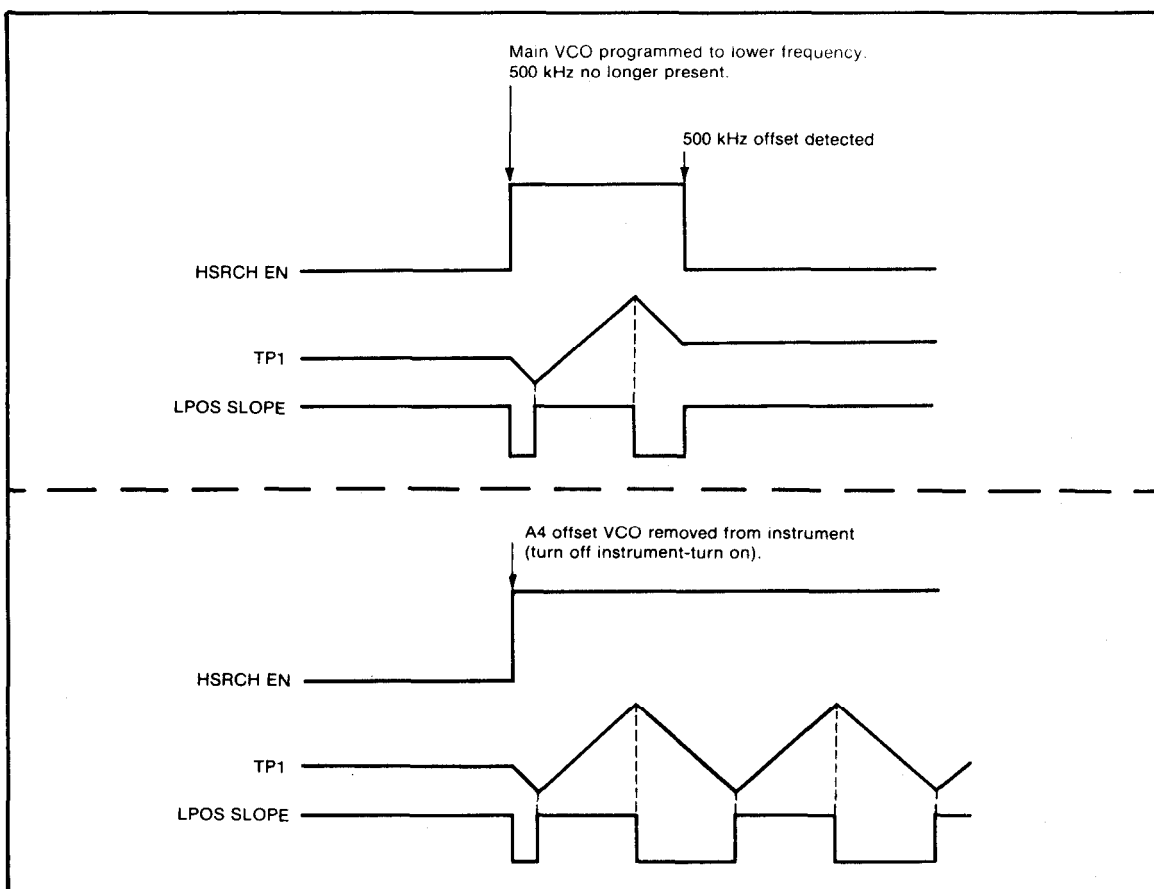

Figure 8-11. Timing Diagram of A6 Search Generator Operation
8-165. When the sweep ramp present at U1D(12) crosses above the upper threshold of 1.6 volts, the output of U1D(11) goes low, U1B(6) goes high and U1A(3) goes low. This causes Q4 to conduct which forward-biases CR4. Since U1B(6) is high, CR3 is reverse-biased. Current is now supplied through CR4 to the integrating capacitor C10. This causes the output of U2(6) to decrease linearly. Since U1A(3) is low, LPOS Slope is TTL low and the loop is allowed to lock once a 500 kHz difference frequency is detected on A7. When lock is achieved, HSRCH EN goes TTL low which causes U1B(6) and U1A(3) to both go TTL high, thereby reverse-biasing both CR4 and CR3. The voltage at the output of U2(6) is therefore maintained at that level which achieved lock. The timing diagram for this operation is shown in *Figure 8-11*.